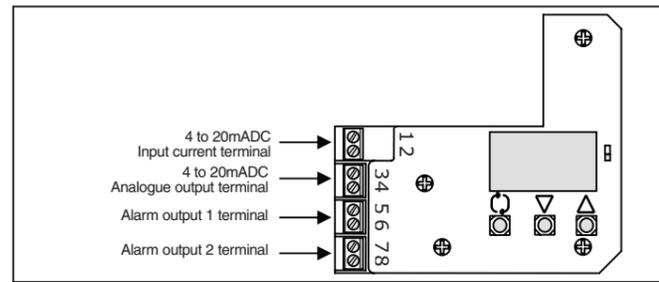

Fig. 9
- (1) Remove the positioner body cover.
- (2) Connect input current wiring from an adjusting meter (controller) and each output wiring following Fig. 9.